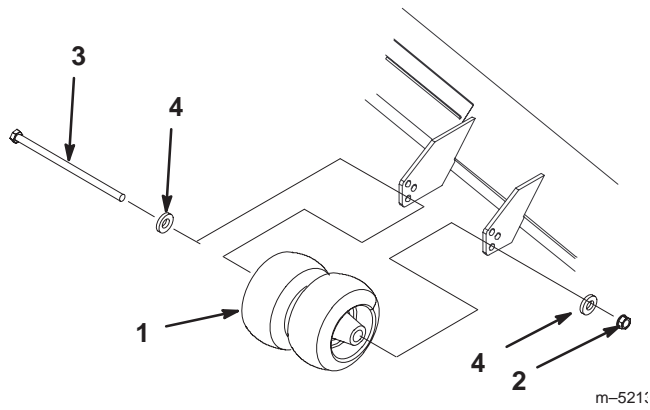

Figure 19
1. After adjusting height-of-cut remove bolt, washers and nut (Fig. 19).
2. Select a hole position so the gage wheels are a minimum of 3/8 in. (9.5 mm) off the ground for the height-of-cut to be used (Fig. 19).
3. Reinstall the bolt, washers and nut (Fig. 19).